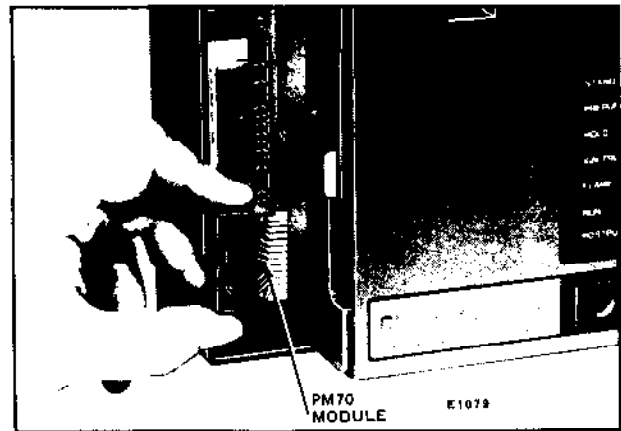

FIG. 8—INSTALLING THE PM70 PROGRAM MODULE IN THE CB70 COMPUTERIZED BURNER CONTROL.
INSTALLING THE PM70 PROGRAM MODULE (Fig. 8)
3. Insert the program module into the opening in the side of the amplifier compartment (see Fig. 8). NOTE THAT THE MODULE IS KEYED.